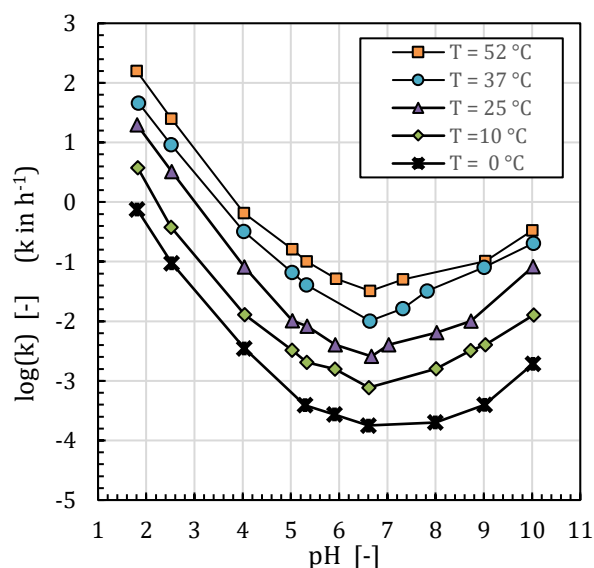

Figure 3: log of 1st order rate constant k of penicillin G degradation as a function of pH and temperature.
- Quel était le pH du milieu pendant le stockage ? (aidez-vous du graphe de la Figure 3)
- What was the pH of the medium during storage? (use the graph in Figure 3)*